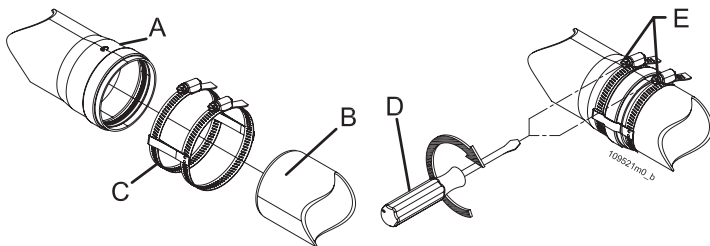

Figure 5-21 - Fixing the exhaust and intake pipes
**! ATTENTION !!! Mechanically secure the joints between the various component elements of the exhaust and intake pipe, through the use of fixing systems or equivalent systems. See figure 5-21.**